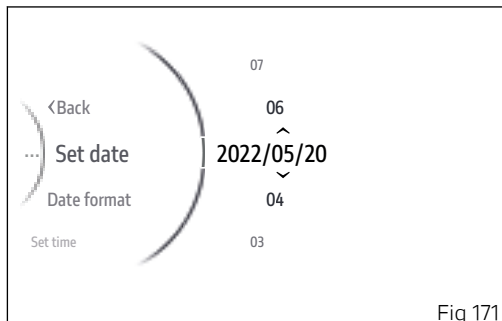

Fig 171
The arrows and available values appear for the second parameter, which is the month in the example shown here (Fig 171). Use buttons (1) and (2) to scroll and select the desired value. Press ENTER (3) to confirm and move on to the following parameter.